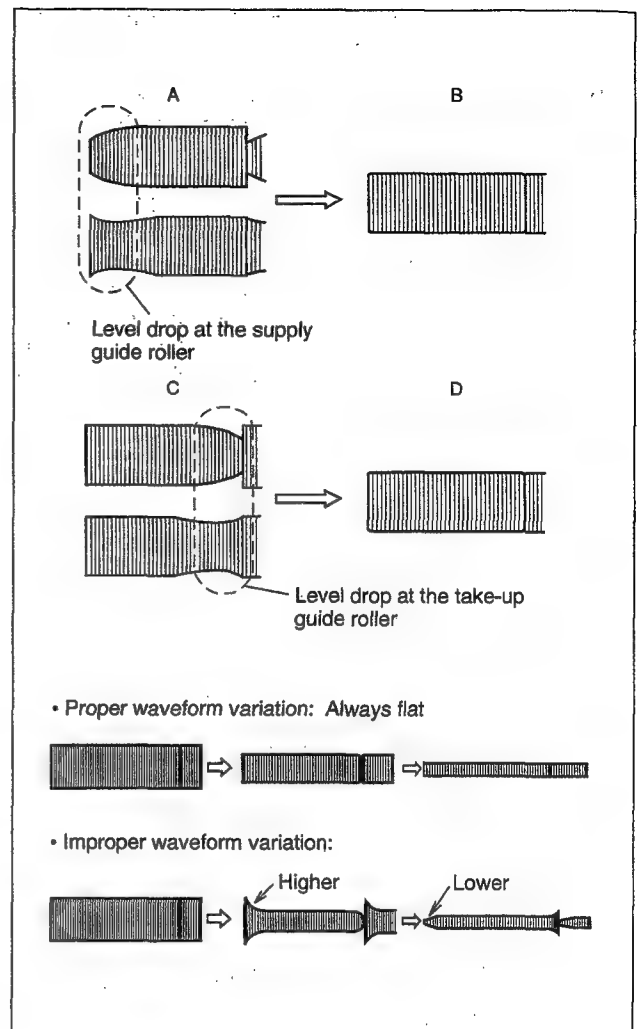

Fig. 2-4-3
- (6) Reduce the FM waveform while pressing the channel buttons (+, -) during playback. If a drop in level is found on the left side as shown in Fig.2-4-3, turn the guide roller of the pole base assembly (supply side) with the roller driver (PTU94002) to make the FM waveform linear. If a drop in level is on the right side, likewise turn the guide roller of the pole base assembly (take-up side) with the guide roller to make it linear. (Fig.2-4-3)
- (7) Then play MHPE-L and make sure that the FM waveform varies in parallel and linearly with the tracking operation. When required, perform fine-adjustment of the guide roller of the pole base assembly (supply or take-up side).
- (8) After adjustment, tighten the set screw under the pole base assembly. (Take care not to tighten too much)
- (9) After tightening the set screw, play the alignment tape MHPE and MHPE-L again to make sure that the FM waveform has correct variation.